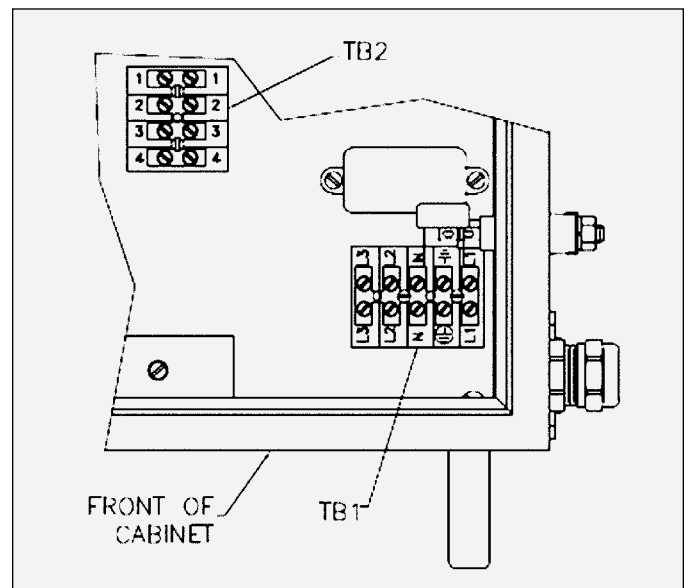
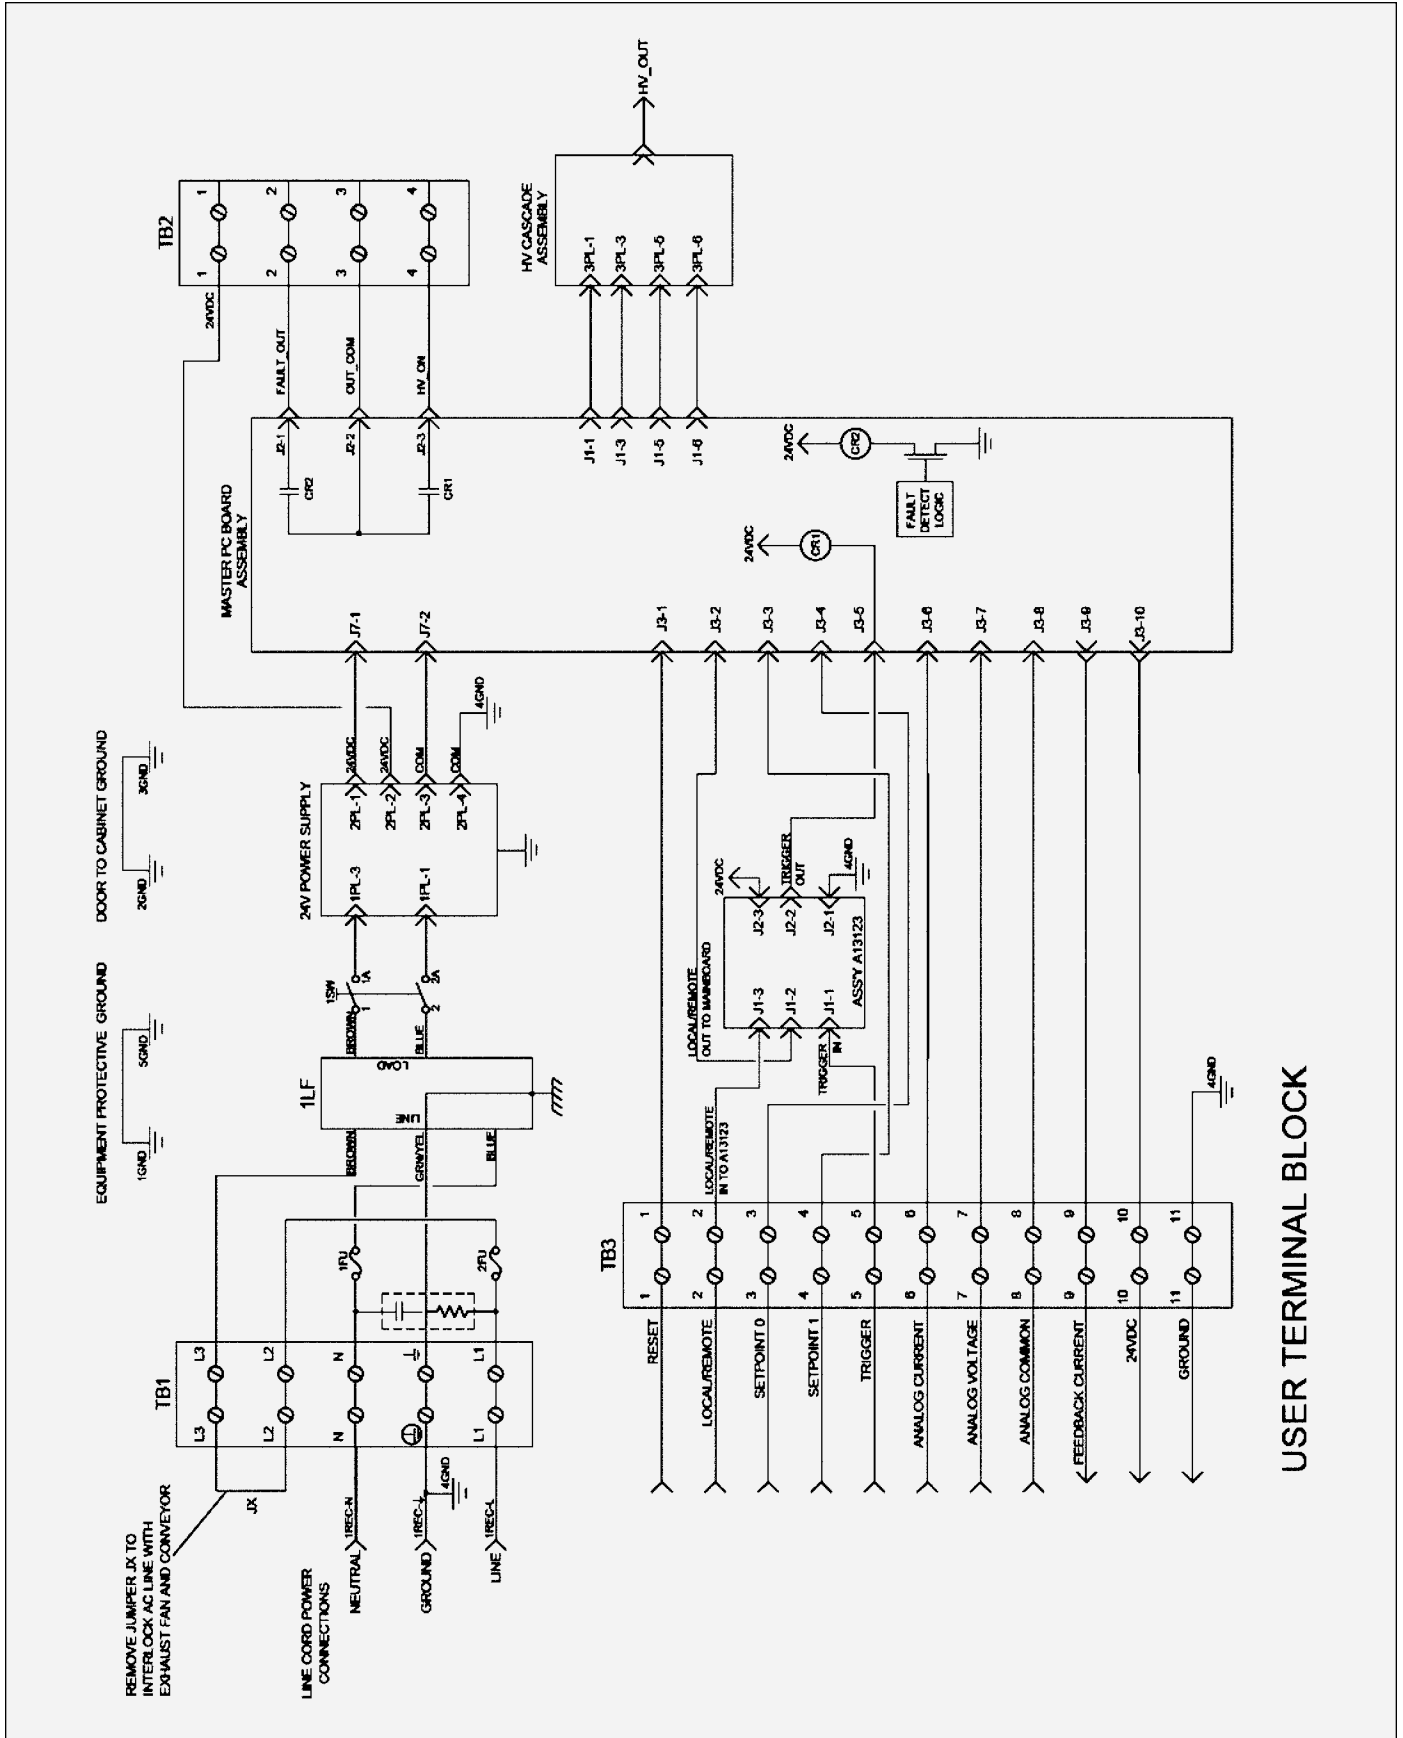

Figure 9: Location of TB1 & TB2 in Controller
Figure 12: Controller Schematic
1. **Ensure the AC line cord is unplugged** and remove the AC inlet receptacle wiring from TB1-N, TB1-L1 and TB1-EARTH GROUND (See Figures 9 and 10).
A set of relay contacts for high voltage (CR1) and fault (CR2) conditions is provided at TB2-4 and TB2-2 (See Figure 9). One end of these relay contacts are connected together and also connected to a source input terminal TB2-3 (See Figure 12). When a source voltage is present at TB2-3 and either the high voltage is on or a fault condition occurs, the source voltage will become available at the output end of the corresponding contact. Maximum contact ratings are as follows: